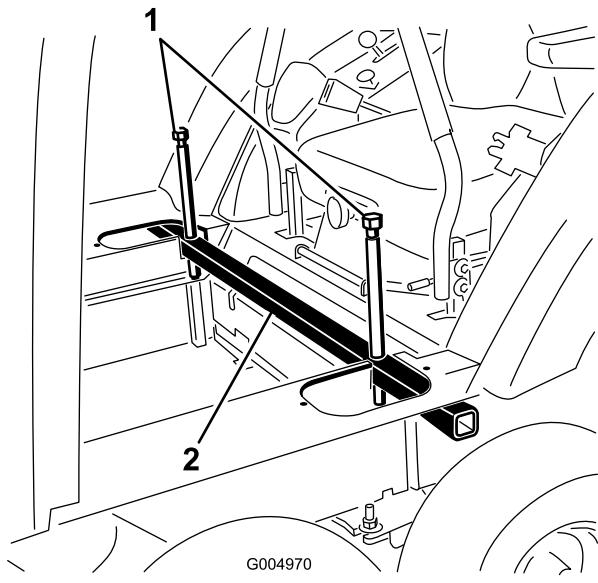

Figure 83
22. Install the cab jack tube into the cutouts in the cab floor (Figure 83). Tighten the jacking bolts until the tapered ends go through the hole in the floor plate and just contact the frame.